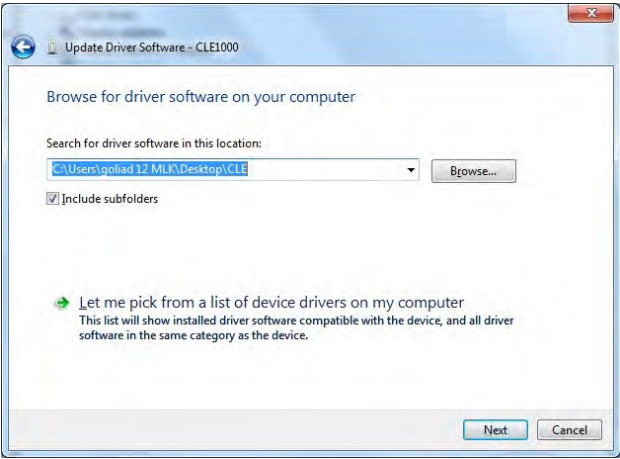

FIGURE 44. UPDATE DRIVER WINDOW
- b) Select **Browse My Computer for Driver** from Windows dialog (see Figure 44).